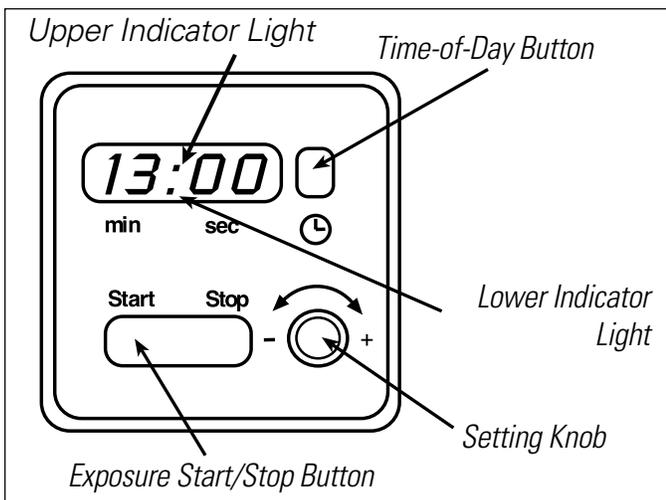

Figure 4. Timer Controls
9. Set exposure time for 30 seconds by turning knob until desired time appears in display (see figure 4).